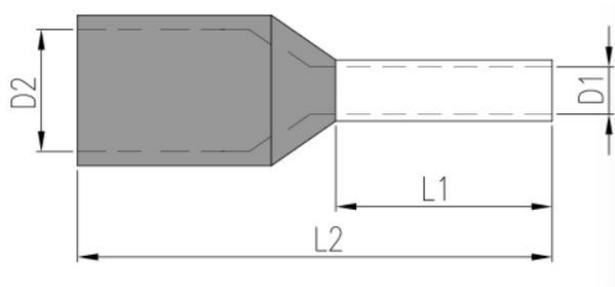

Fig.3.49
- The model of push-in design communication terminal plug is ESC381V-10P(DINKEL), which is installed on the drive. The dimensions of the insulated tube terminals used for these terminals are shown in Figure 3.49. The requirement for the dimensions is $L1 \geq 10\text{mm}$, and other terminal requirements should be met.